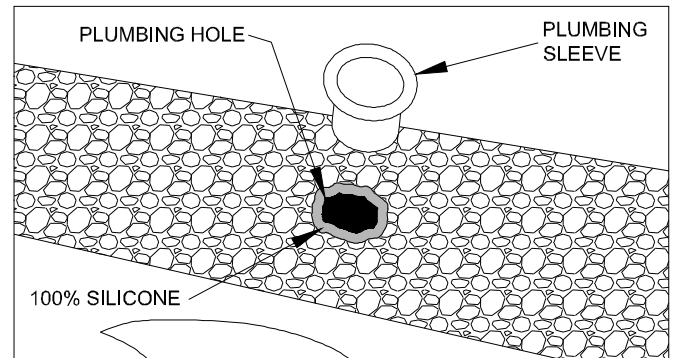
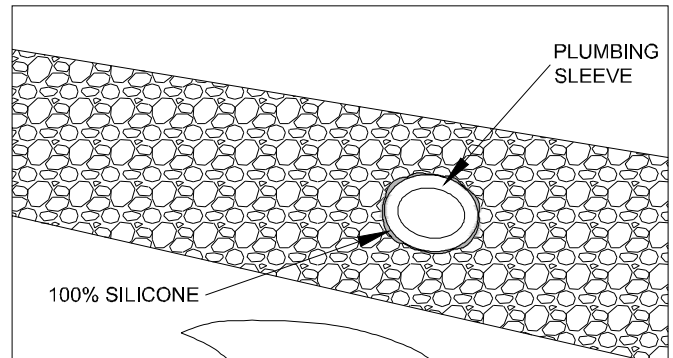

Figure 25B
Figure 25C
- After applying the 100% silicone, install the plastic sleeve into the plumbing hole and press firmly in place. (FIG. 25B & FIG. 25C)